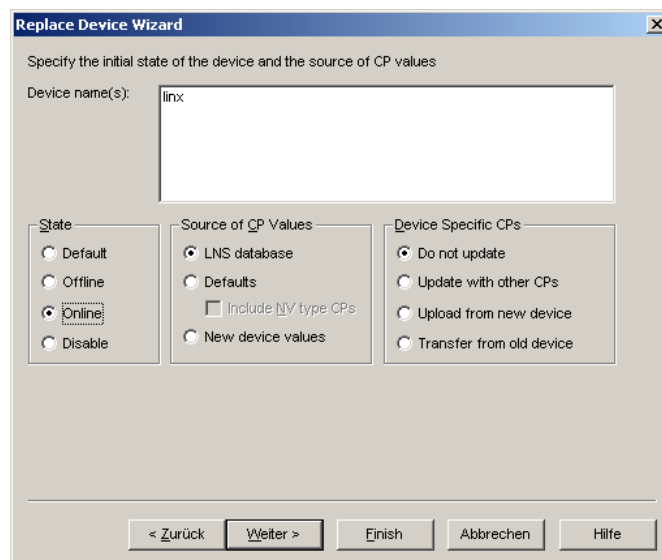

Figure 103: Select online state.
5. Then select **Online** as shown in Figure 103 and click **Next**.